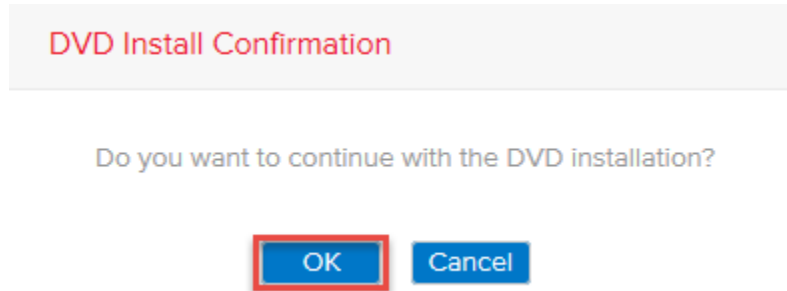

Figure 39 - Confirm DVD Installation
- You will be prompted to confirm the DVD install. Click OK (Refer to Figure 39).